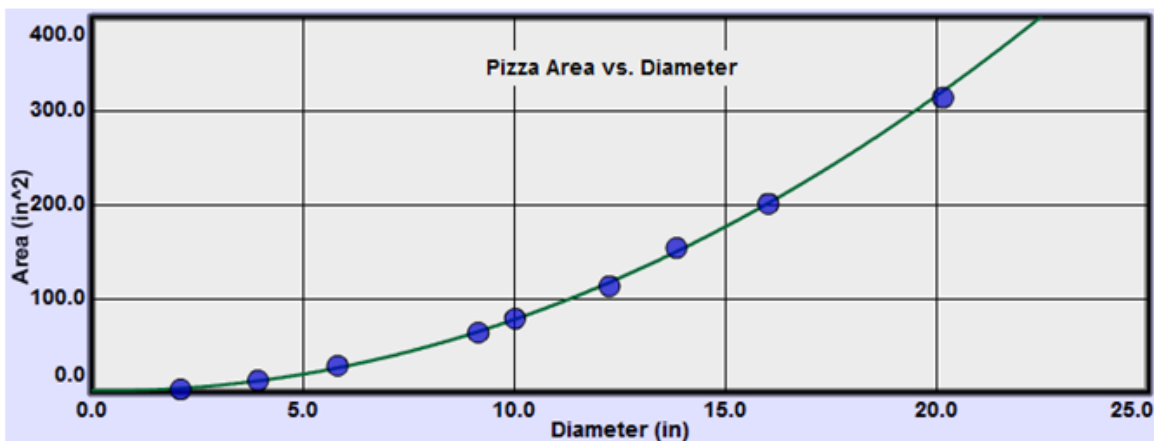

Figure 3: Pizza Area vs. Diameter
The graph shown in Figure 3 is what you want for your finished product. Your graph shouldn't look much like this yet. Here's a description of what you want, followed by how to achieve it.
- If the data is non-linear, draw a smooth curve indicating the tendency of the data as shown in Figure 3. (In some cases you won't be able to do this with Grapher, but you can print out a copy and draw the smooth curve by hand if necessary.) For non-linear data, you will usually need to *linearize* it to find the correct relationship as discussed below.
- f Your graph is probably much taller than the one shown in Figure 3. It's often convenient to reduce its height. For example you may be asked to print out a graph and attach it to your lab report. A smaller graph is usually preferred. You can easily reduce the graph to one half or one third of its initial height.
Try this. Click in the check boxes beside “2” and then “3” to see how this works. That's how Figure 3 was produced.